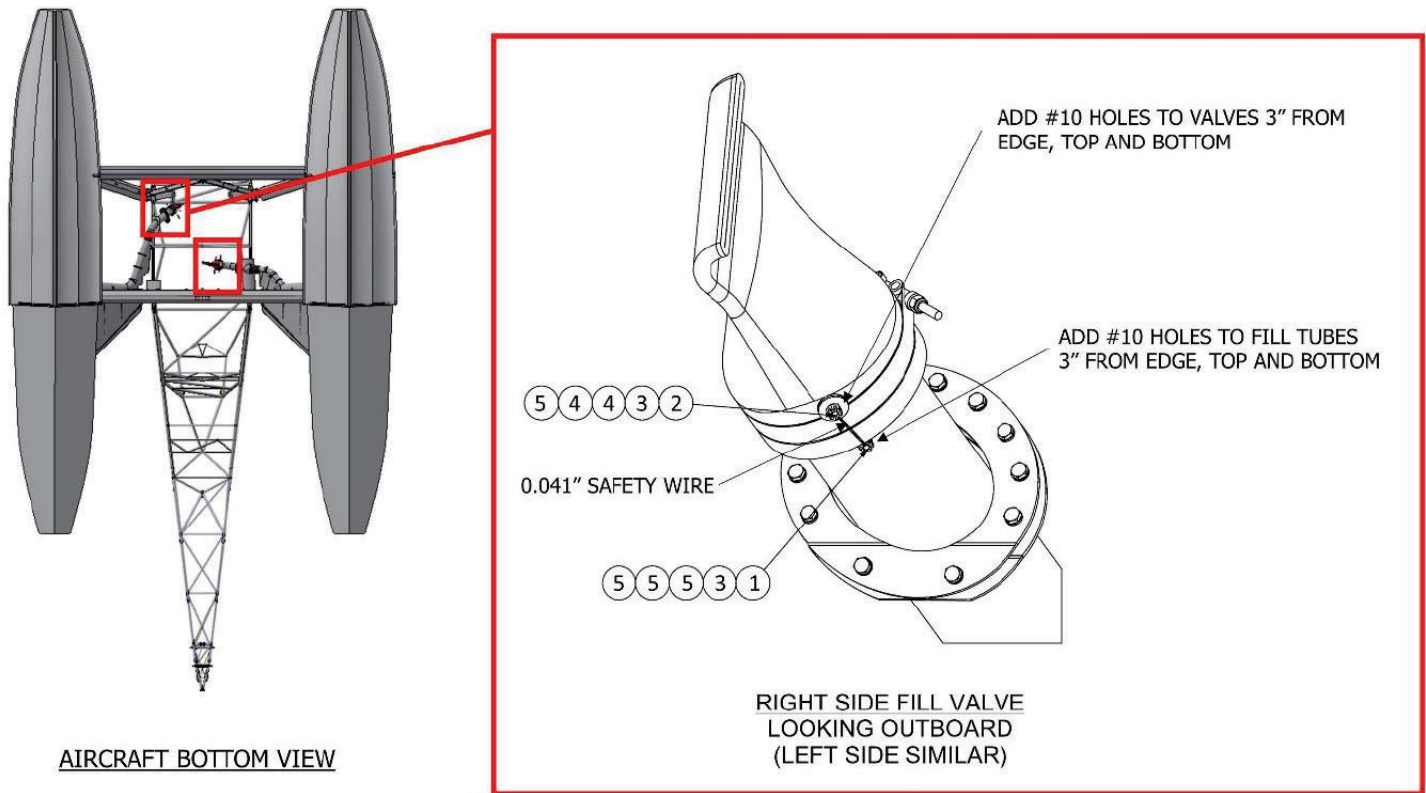

Figure 1
1. Gain access to the two fill valves located within the hopper. See figure 1. If opening the fire gate, disarm the system while performing maintenance.
3. Add (2) #10 holes to each valve and to each fill tube, one on top and one on bottom as they sit in the aircraft. The result is (8) total holes for the whole aircraft. Place these holes 3" from the edge of the valve/tube.
4. Create studs at these locations using the hardware identified in Figure 1 and Table 1. Seal with Pro-Seal as needed.
6. Attach 0.041" safety wire between the newly created studs in accordance with AC 43.13 (4 total locations). See Figure 1.